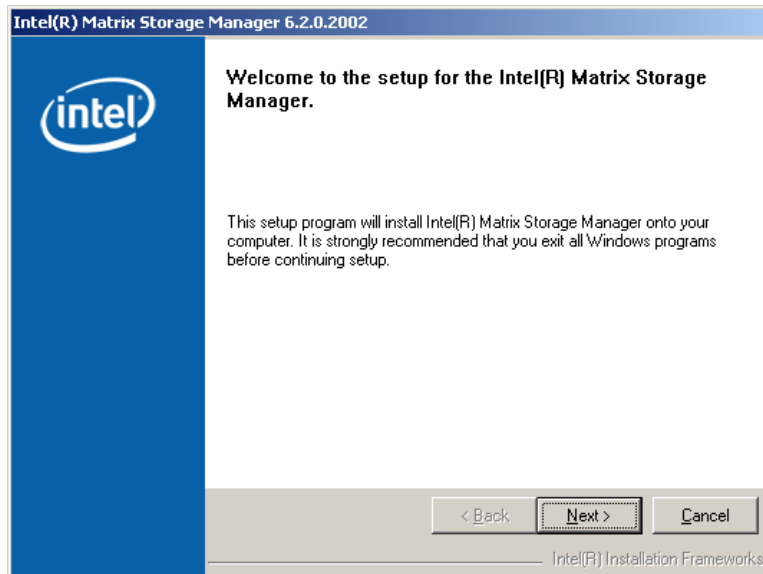

Figure 7-40: Matrix Storage Manager Welcome Screen
Step 7: Figure 7-40 shows the **Matrix Storage Manager** welcome screen.